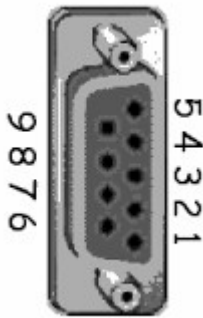

Fig.4: Motor cable connector
Two (2) cables, each equipped with a DSUB9 connector, allow the electrical connection to the mechanical assembly. For the motor cable and the signal cable, figures 4 and 5 illustrate the DSUB connections.